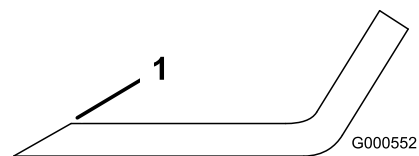

Figure 48
1. Use a file to sharpen the cutting edge at both ends of the blade (Figure 48).
Note: If the blade is not balanced, file some metal off the end of the sail area only (Figure 48).